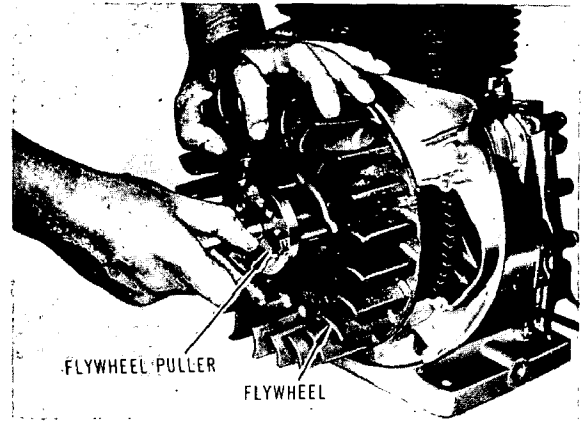

Fig. 6-3-1
- 3) Attach flywheel puller to flywheel as shown in Fig. 6-3-1, and turn center bolt clockwise until flywheel becomes loose enough to be removed.